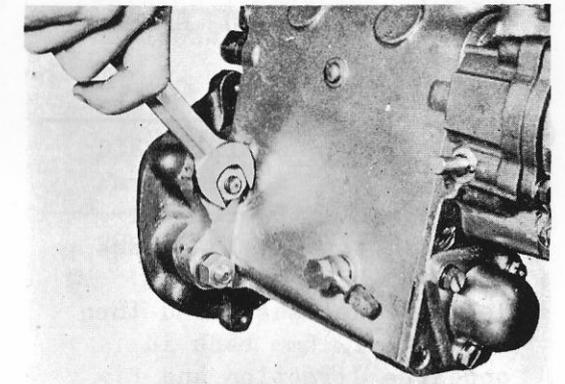

Fig. 9-60
- 2) Mount the pump bracket on the pump body flange. (See Fig. 9-60)